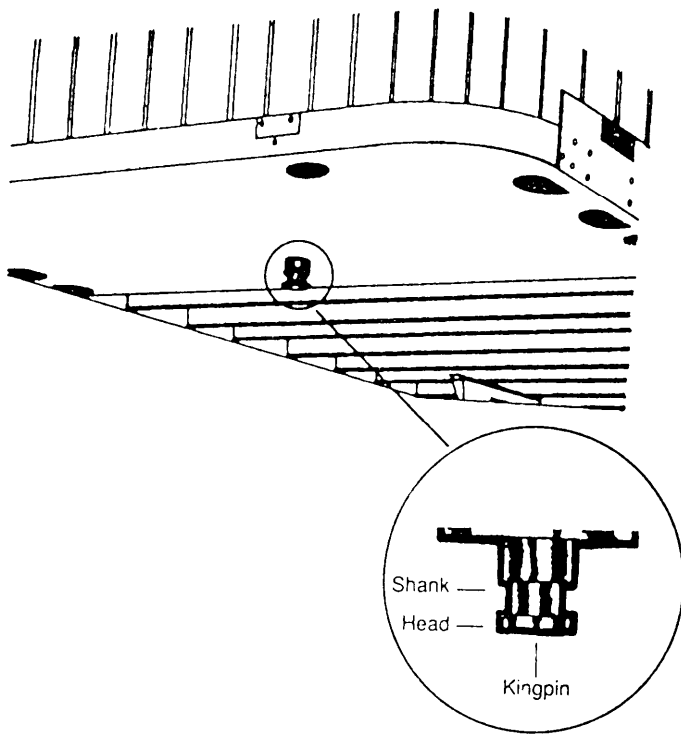

Figure 7-16.—Trailer kingpin.
- Go under the trailer and look into the back of the fifth wheel. Ensure the fifth wheel locking jaws have closed around the shank of the kingpin (fig. 7-16).